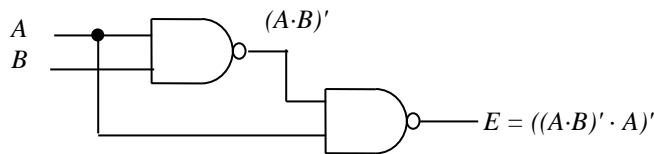
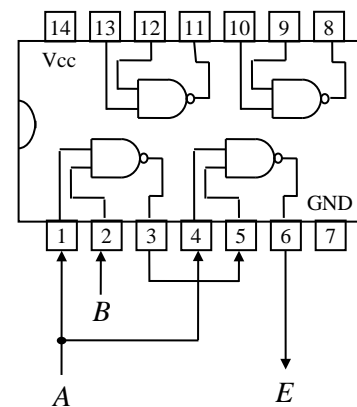

Figure 6. Logic diagram.
Figure 7. Pin connections.
- When you are asked to draw logic diagrams, we are looking for diagrams that look like the one in Figure 6, not Figure 7, which shows the actual connection of the pins of the chip. The diagram in Figure 7 may be used for your own reference.